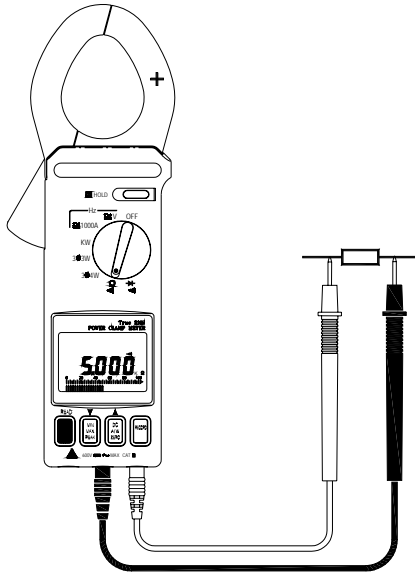

Figure 16
3. Connect the test leads to the circuit being measured and read the displayed resistance value. Refer to Figure 16.